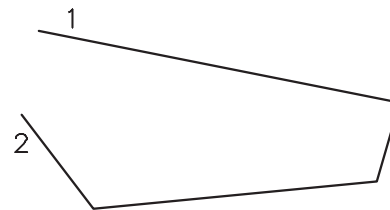

Fig. 16-6
1. Above the gasket, draw lines similar to the ones shown in Fig. 16-6. Omit the numbers.